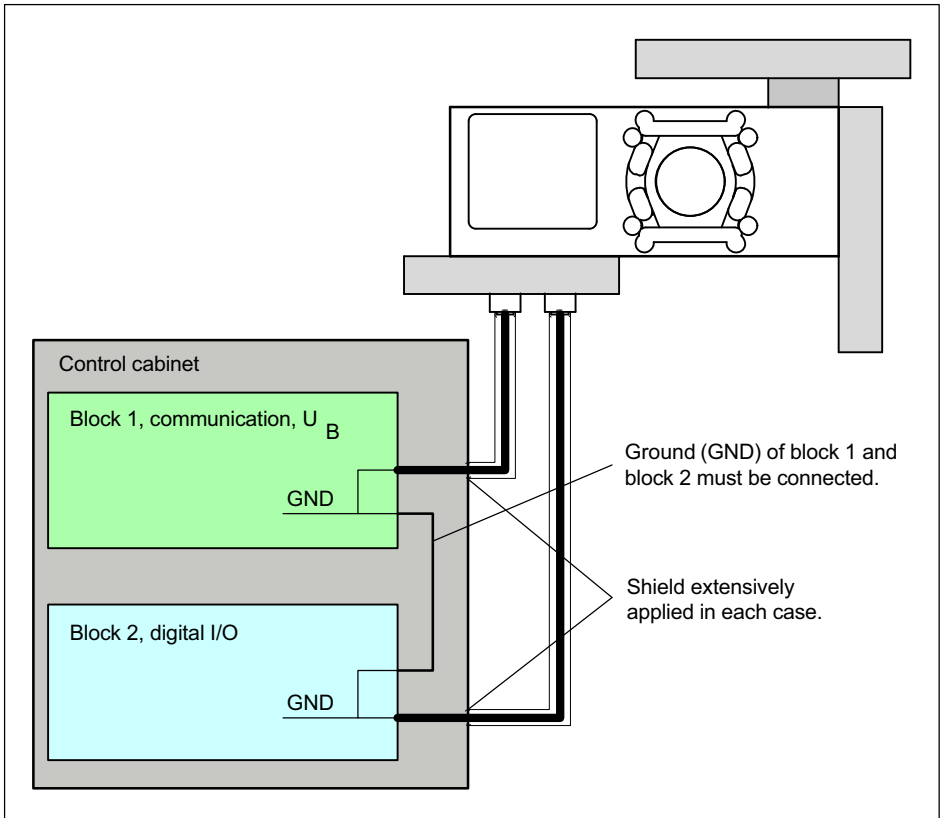

Fig. 7.2 Connecting GND potentials for a mounting inside a control cabinet
2. Both function blocks are inside a control cabinet (Fig. 7.2).
When mounting all the function blocks inside a control cabinet, (Fig. 7.2 on Page 19), make sure that the GND potentials of both blocks are connected.